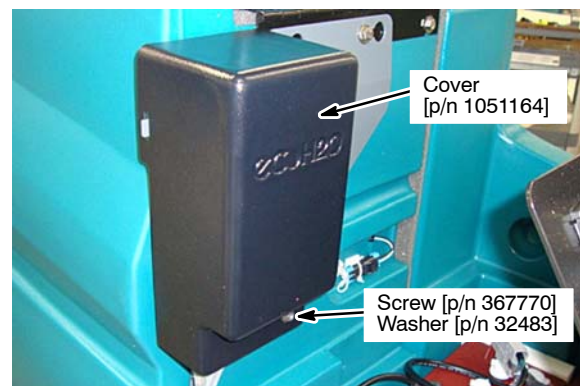

Fig. 37
10. Using screw [p/n 367770] and washer [p/n 32483] attach the module cover [p/n 1051164] to module bracket (Figure 37).